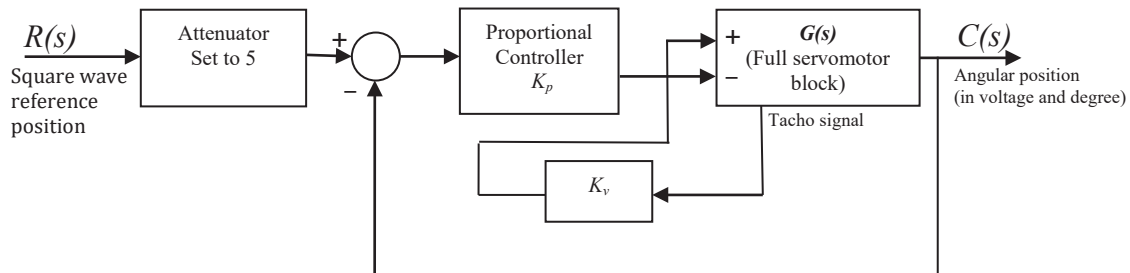

Figure C.1: Closed loop DC motor Position control with velocity feedback
1. Connect the equipment corresponds to the block diagram shown in Figure C.1. The difference is just an additional minor feedback loop as compared to the connection in Part B.